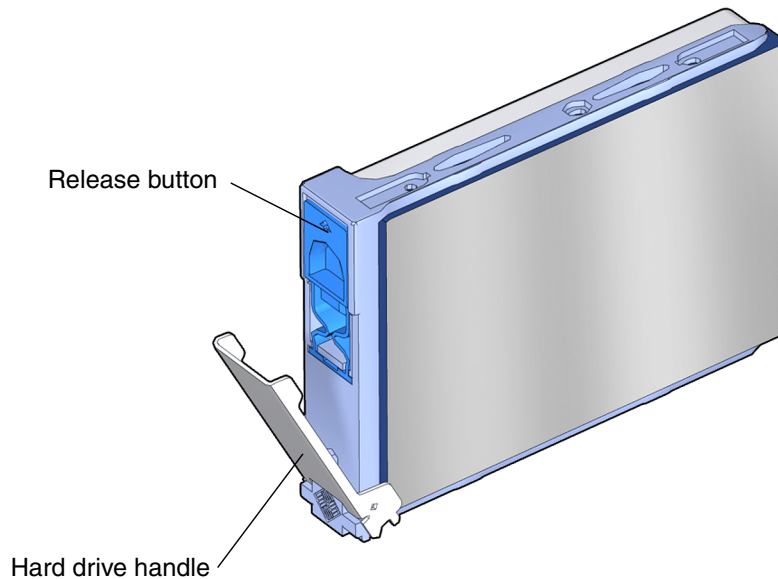

FIGURE 12-4 Preparing the Hard Drive for Installation
3. Prepare the hard drive for installation (FIGURE 12-4).